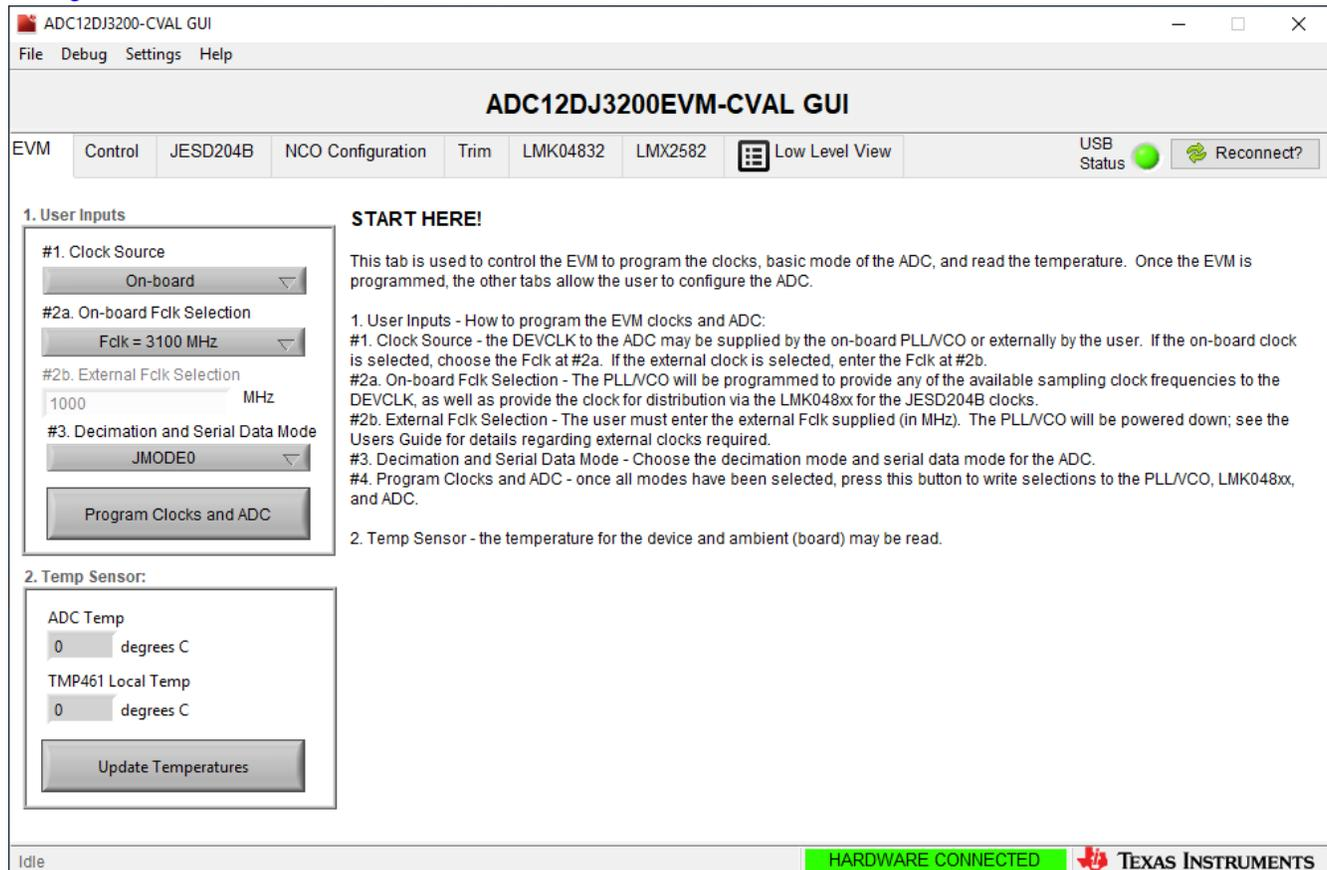

Figure 7-1. ADC12DJ3200EVM-CVAL GUI
3. Figure 7-1 illustrates the GUI.